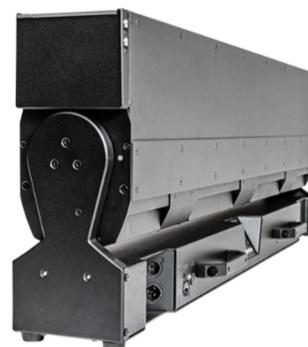

Figure 6. FR 10 Bar placed on a horizontal surface
1. Stand the fixture on its feet as shown in Figure 6. Make sure that it is safe and secure, and that it will not present a danger of tripping or falling.